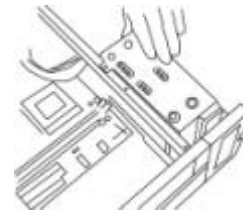

Figure 7
- 3.2) Slide in the 3.5" bracket from inside into case. (See Figure 7)